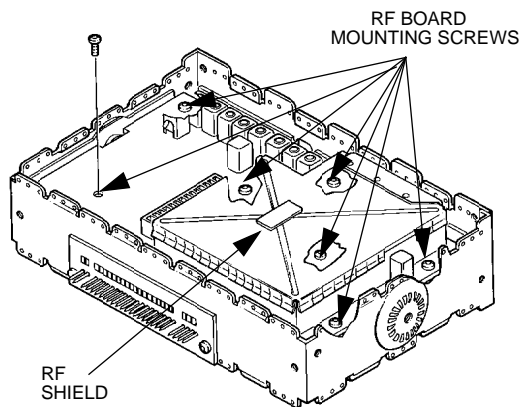

Figure 1-5.
1. After the PA heatsink has been removed, pry off the RF shield (Figure 1-5). Be careful not to over bend any one corner or side.
2. After removing the RF shield, remove all RF board mounting screws and take out the RF board (Figure 1-5).